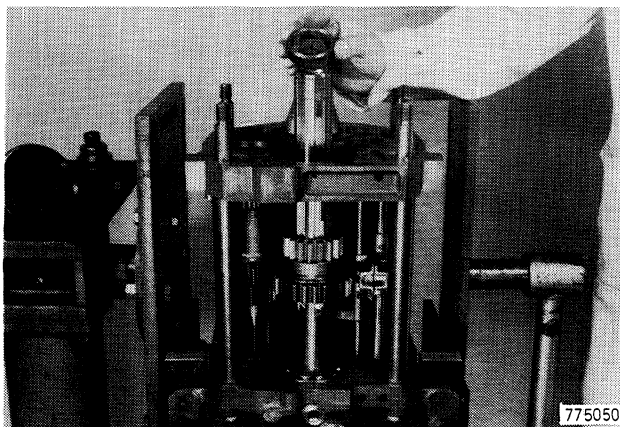

Figure 52
24. Remove spacer from pinion shaft, Figure 52.